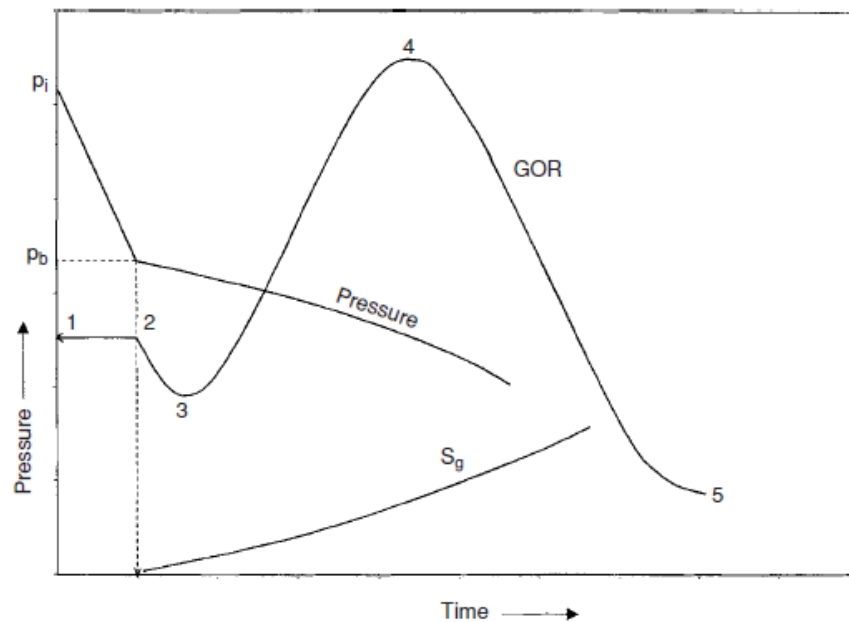

Fig 1. Characteristics of Solution Gas/Depletion Drive Reservoir
6. Prediction of future reservoir performance is essential to determine the economic potential of an oilfield. The material balance equation is often used to provide the estimates of the initial oil in place, size of gas cap and water influx. But to use the material balance equation for performance prediction, it is essential to determine the instantaneous gas-oil ratio (GOR). Thus, understanding of instantaneous GOR is highly important. Keeping this in mind, provide your understanding of the GOR curve (Fig. 1) of a given hypothetical depletion drive reservoir shown below, where well flowing pressure is plotted against time or cumulative oil. Provide your understanding for the following points given below: